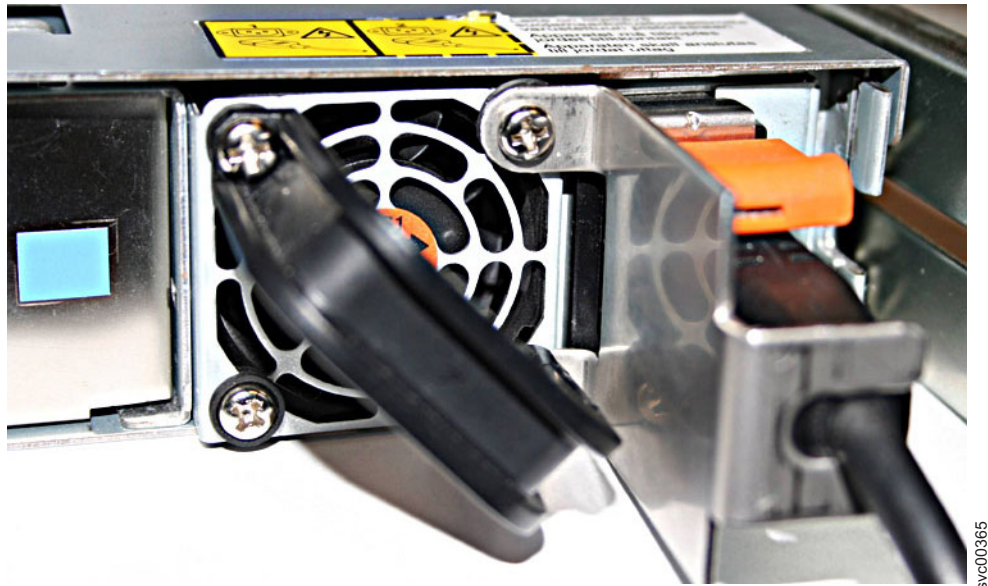

Figure 27. The SAN Volume Controller 2145-8G4 with the cable-retention bracket attached
1. With the node powered off and the power cable removed, unscrew and remove the two screws **1** on the right side of the rear plate that covers the power supply fan unit, as shown in Figure 27 on page 30.
3. Position the cable retention bracket so that the power cable runs through the slot in the bracket, as shown in Figure 27. Align the screw holes in the bracket with the holes that are in the rear plate where you removed the two screws.